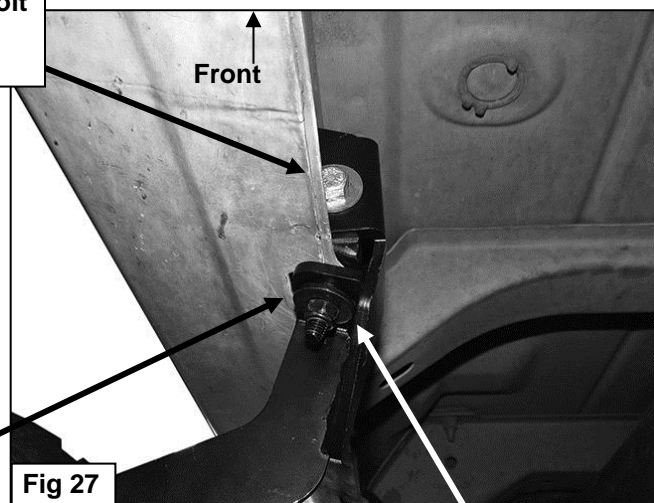

Fig 27
14. Repeat the appropriate **Step 5** to install (1) Bed Mounting Bracket on the passenger side. Select (1) Rear Tube Bracket, (**Figure 27**). Bolt the Tube Bracket to the front of the Mounting Bracket with (2) 10mm x 30mm Hex Bolts, (4) 10mm Flat Washers and (2) 10mm Nylon Lock Nuts. **NOTE:** Cradles on all Brackets installed on passenger side will face forward. Leave hardware loose at this time.